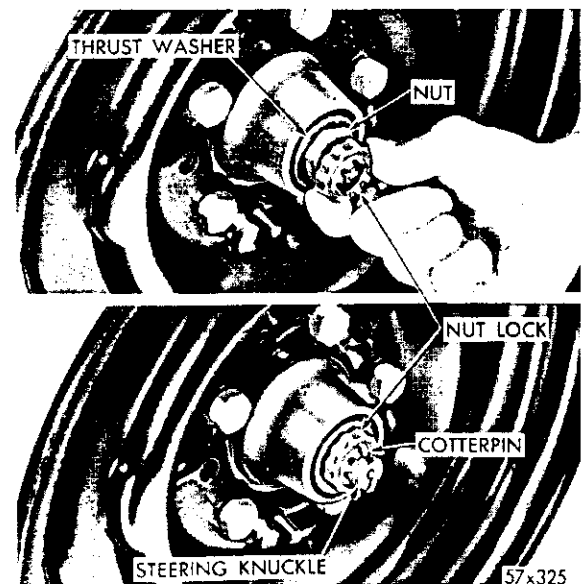

Fig. 9—Adjusting Front Wheel Bearings
(1) Tighten the wheel bearing adjusting nut to 90 inch-pound torque while rotating the wheel.
(2) Position the nut lock on the nut with one pair of slots in line with the cotter pin hole (Fig. 9).
(3) Back off the lock and adjusting nut to the next slot.
(4) Install the cotter pin.